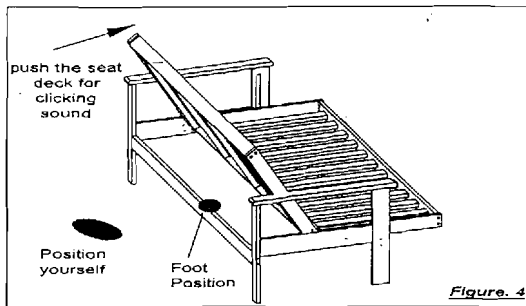

Figure 4
4. Push the seat deck until you hear the clicking sound. That is the lock for the lounge position. (figure 4). It is more comfortable if you put one of your foot on the front stretcher rail while pushing the seat deck backwards.